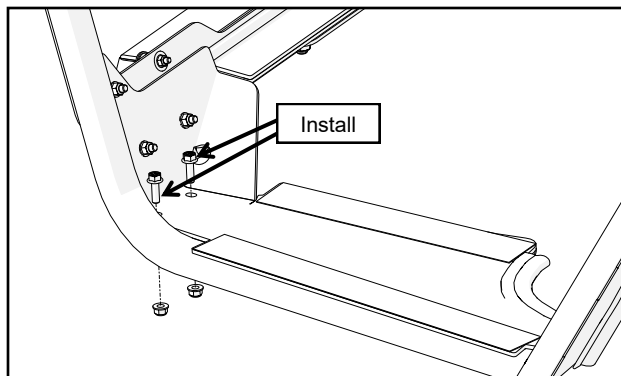

Fig. 2.8 (Install Front Mount Screws)
- 2.8 Install the front of the cab to front mounts per Figure 2.8.